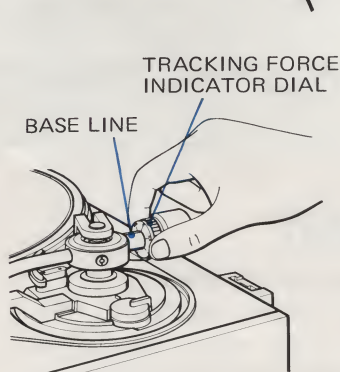

Fig. 4
- 2 Hold the tone arm counterweight and set the tracking force indicator dial to the zero position relative to the base line (Fig. 4). The tone arm and cartridge assembly are now correctly balanced.